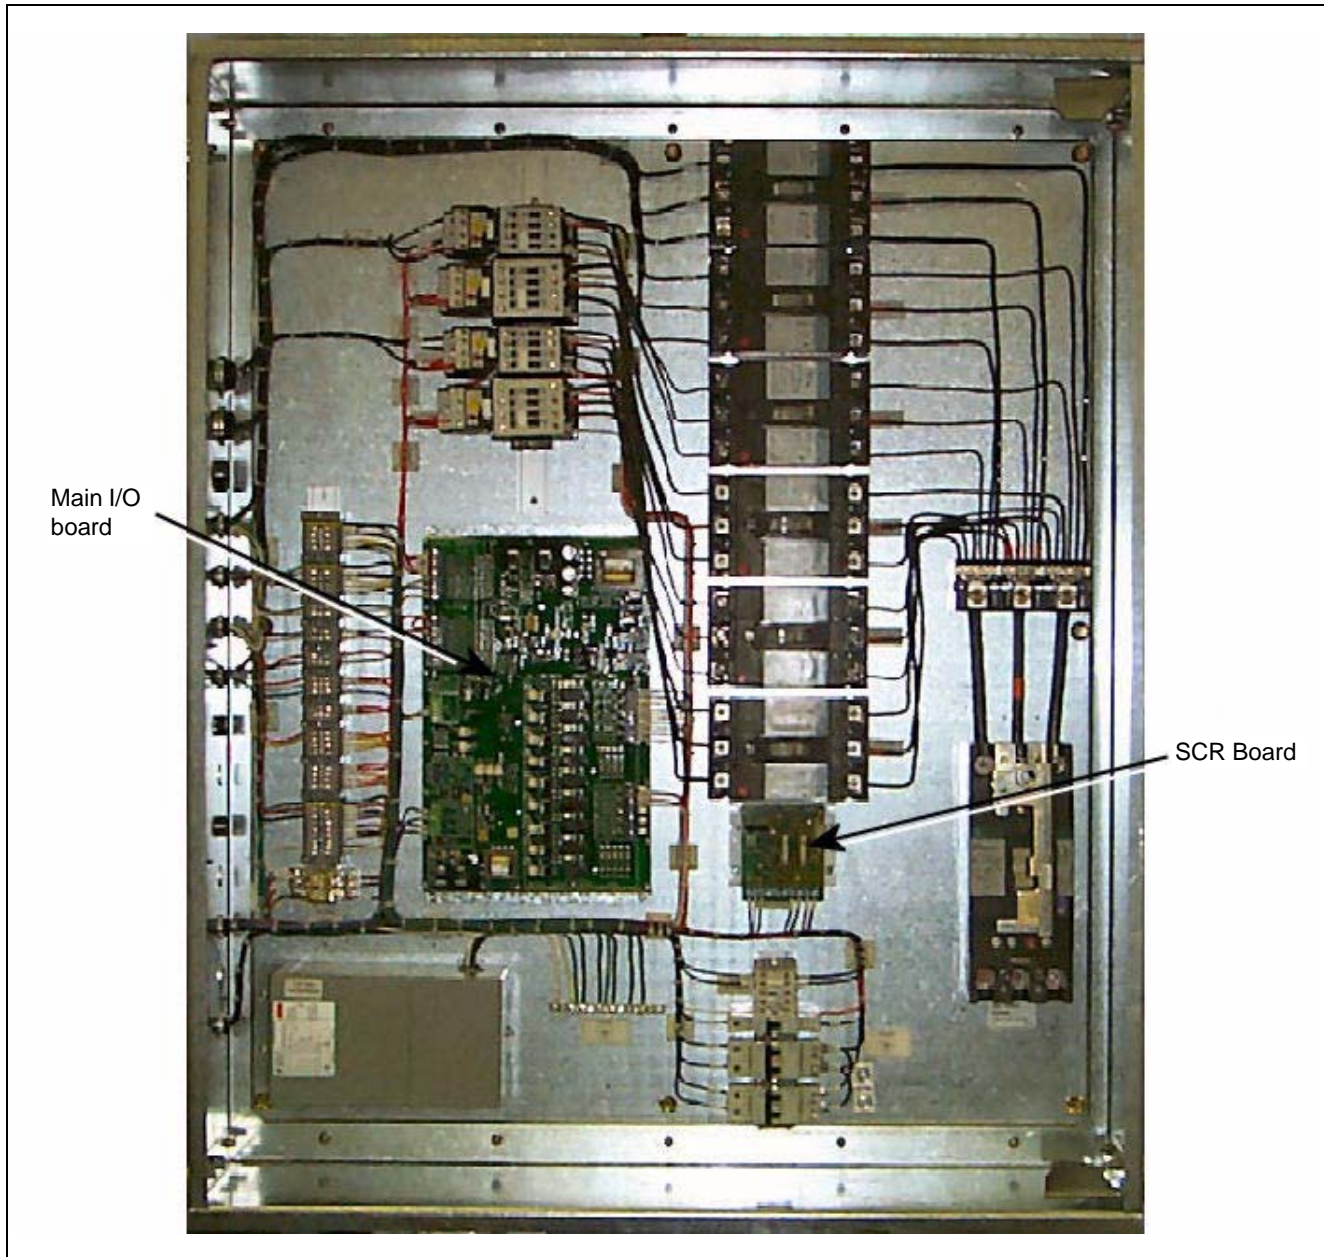
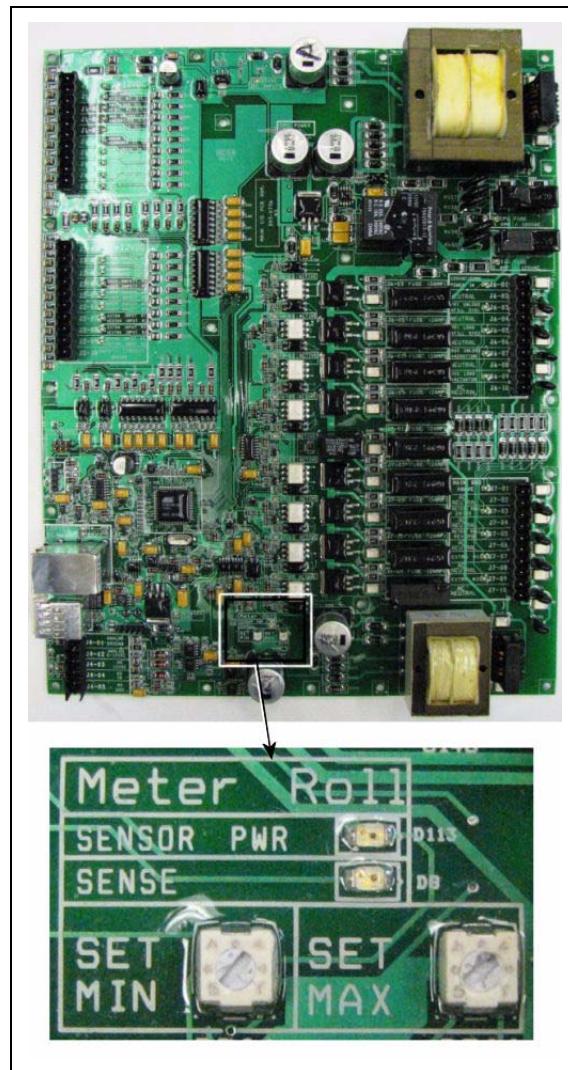
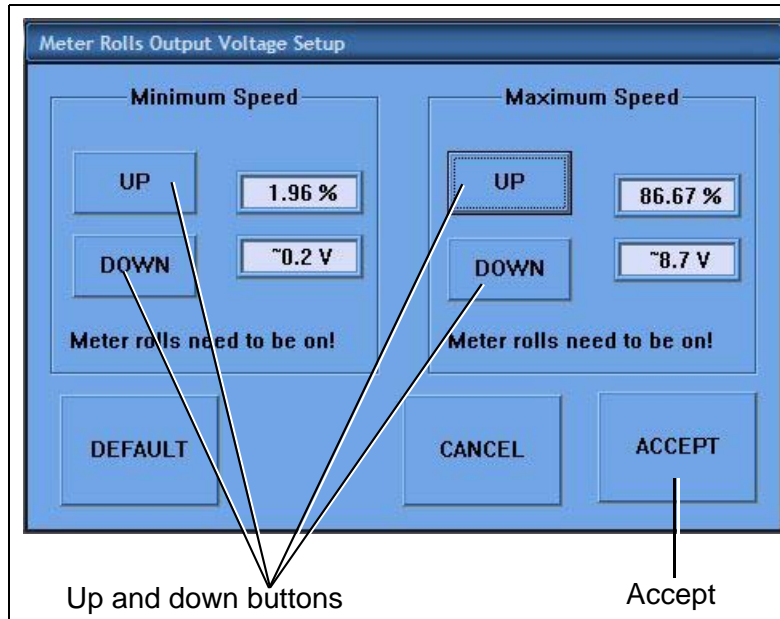

Figure 1A Main I/O Board and SCR Board Locations
Figure 3A Main I/O Board with a Close Up View of the Set Minimum and Set Maximum Potentiometers
Figure 3H Meter Roll Output Voltage Setup
1. Locate the Main I/O board in the upper control box. (See Figure 1A on Page 5.) Near the bottom of the Main I/O board are two potentiometers labeled SET MINIMUM and SET MAXIMUM. (See Figure 3A.) Turn both of these potentiometers as far to the right (clockwise) as they will go. **NOTE:** Be careful not to turn these potentiometers too far or with too much force. They only turn approximately one full revolution and too much force or attempting to turn them too far, could break them.
- Use a voltmeter to read DC voltage. Place the red lead on the A+ terminal of the SCR board and the black lead on the A- terminal. (See Figure 1C on Page 7 for the location of these terminals and Figure 1A on Page 5 for the location of the SCR board.) Touch the MINIMUM SPEED UP and DOWN buttons and watch the display on the voltmeter. The voltage reading on the voltmeter should be to as close to 9 VDC as possible. Once the voltmeter display reads as close to 9 VDC as possible, touch the ACCEPT button. (See Figure 3H.)